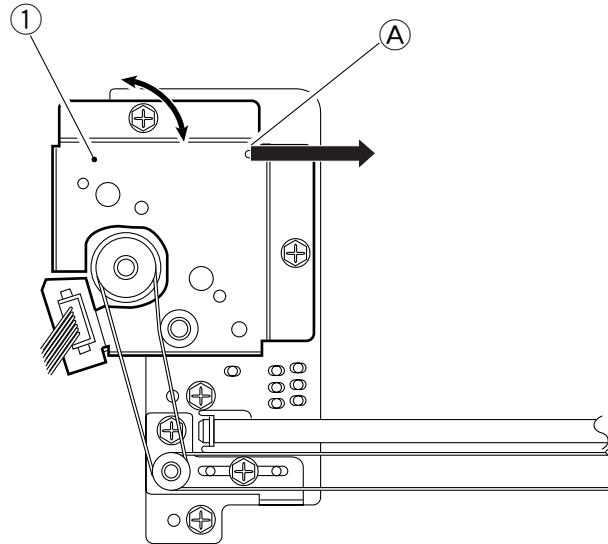

Figure 3-527
Move the lens motor support ① and fit it in place so that the reading of the spring gauge is  $1000 \pm 50\text{g}$  when motor support ① is pulled with a spring gauge in the direction of the arrow at the point ① indicated in Figure 3-527.